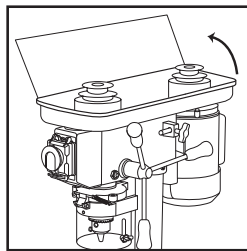

Fig1
■ SPEED ADJUSTMENT (FIG 1)
■ INSTALLING A DRILL BIT (FIG 1)
- With the switch "OFF", open the chuck jaws (1) using the chuck key
- (2). Turn the chuck key counterclockwise to open the chuck jaws (1).
- Insert the drill bit (3) into the chuck far enough to obtain maximum gripping by the jaws, but not far enough to touch the spiral grooves (flutes) of the drill bit when the jaws are tightened.